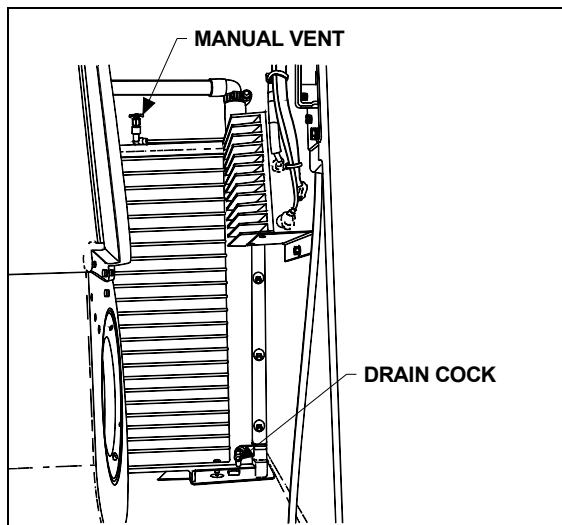

FIGURE 32: HVAC COMPARTMENT
4. Open drain cock in bottom of heater core, then open manual vent located on top of heater core (Fig. 32) in order to allow air to enter while draining.